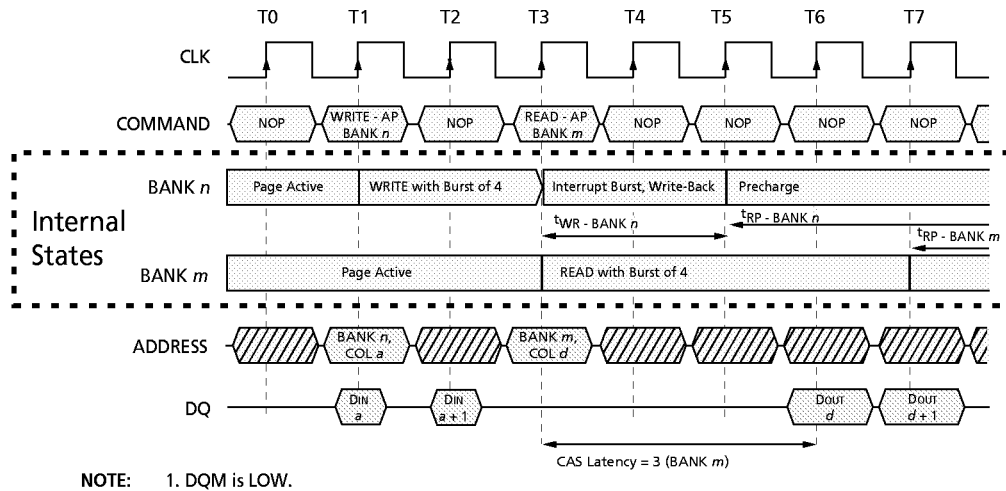

Figure 26
3. Interrupted by a READ (with or without auto precharge): A READ to bank *m* will interrupt a WRITE on bank *n* when registered, with the data-out appearing CAS latency later. The PRECHARGE to bank *n* will begin after ^tWR is met, where ^tWR begins when the READ to bank *m* is registered. The last valid WRITE to bank *n* will be data-in registered one clock prior to the READ to bank *m* (Figure 26).